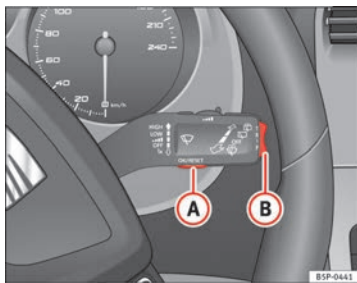
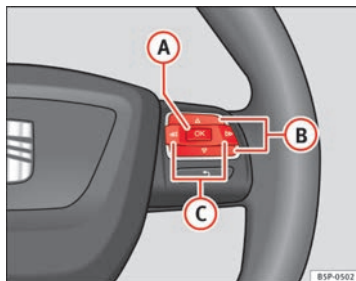

Fig. 44 Windscreen wiper lever: button A to confirm the menu selection and rocker switch B to change the menu
Fig. 45 Steering wheel controls: button A to confirm the menu selection and switch B to change the menu
- To access the “Configuration” menu, press button **(C)** ⇒ fig. 45 until the menu is displayed. Now you are in this menu.
- To change from one memory to another, briefly press button **A** ⇒ fig. 44 ⇒ page 67 on the windscreen wiper lever or the **OK** button on the multifunction lever ⇒ fig. 45 ⇒ page 67 while the ignition is switched on.
The following data can be viewed on the multifunction display using the rocker switch **B** ⇒ fig. 44 ⇒ page 67 on the windscreen wiper lever or by pressing button **△** or **▽** ⇒ fig. 45 on the multifunction steering wheel*.